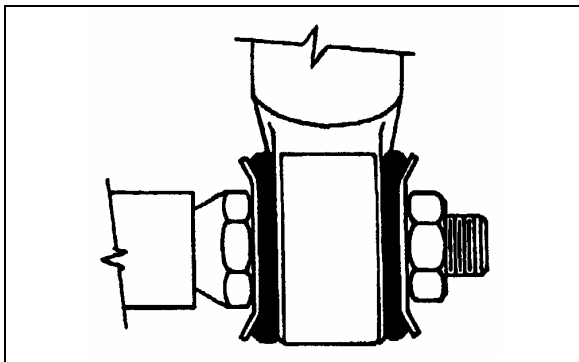

FIGURE 6: TYPICAL SHOCK ABSORBER SETUP
3. Place the inner washers (with washer convex side facing the shock absorber rubber bushing) on each shock absorber pin (Fig. 6).